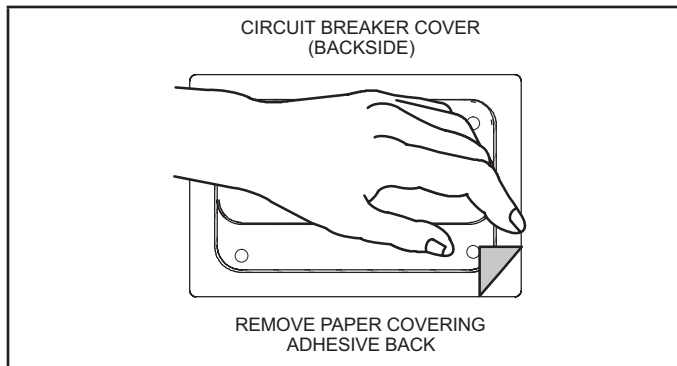

FIGURE 7. Remove Paper Cover
- 2 - Remove paper backing from the adhesive around the perimeter of the back side of the circuit breaker cover (figure 7).